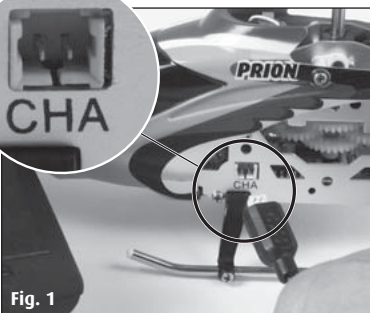

Fig. 1
2. Insert the charging cable plug carefully into the charging socket on the helicopter (Fig. 1). The plug should fit into the charging socket easily - DO NOT USE FORCE. If the plug is not inserted correctly into the charging socket, the helicopter may be damaged and there may be a risk of injury.
- b. Insert the charging cable plug carefully into the charging socket on the helicopter (Fig. 1). The plug should fit into the charging socket easily - DO NOT USE FORCE. If the plug is not inserted correctly into the charging socket, the helicopter may be damaged and there may be a risk of injury.
The slide controller (the left controller on the remote) must point down before being switched on. Then switch the control button on the remote to "ON" (fig. 1); the power LED will flash red.